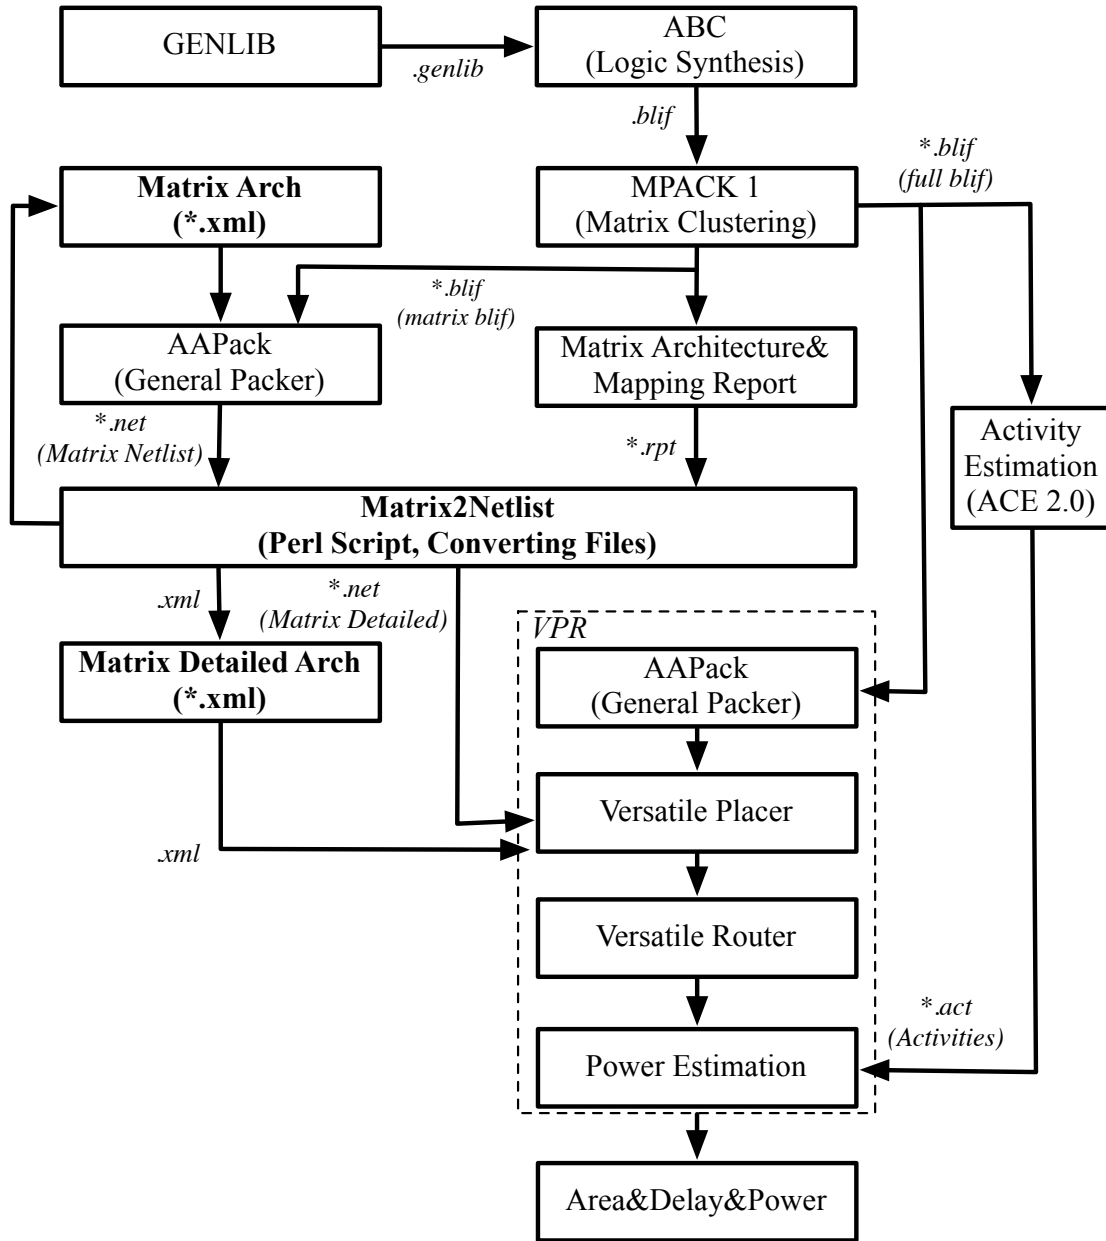

Fig. 1. MPACK1 flow
MPACK1 scripts are developed to integrate MPACK1 into VPR7 (Versatile Place & Route) CAD flow. A Perl script, *mpack1\_mix\_flow.pl*, manages the MPACK1 flow shown in Fig. 1. The Perl script, connecting ABC (Logic Synthesis Tool), MPACK1 (Matrix-based BLE Packer), VPR 7 and another Perl script, *m2net.pl*, generates a table (CSV file) containing area, delay and power of a given matrix-based cluster architecture.
In Fig. 1, input circuit is first synthesized by ABC with logic optimization, then MPACK1 packed the circuits into matrix-based BLEs (*Basic Logic Elements*). AA-Pack clusters the matrix-based BLEs into CLBs (Configurable Logic Blocks).
Output matrix-based blif file of MPACK1 cannot be directly supported by VPR7 timing analysis engine because VPR7 requires more detailed architecture description and mapping information inside each matrix-based BLE. Perl script, *m2net.pl*, aims to fit the results from MPACK1 to VPR7 timing engine through (1) auto-generating the architecture description of matrix-based clusters with given settings, (2) inject the internal interconnections inside packed matrix-based clusters into the netlist (\*.net) generated by AA-Pack. Works from *m2net.pl* are bold in Fig. 1.
MPACK1 outputs two blif files, one (called as matrix-blif in Fig. 1) without internal interconnection information inside matrix-based BLEs, the other (called as full-blif in Fig. 1) providing full internal interconnection information insides matrix-based BLEs. Besides, MPACK1 outputs a report file including the matrix architecture and internal connections of each matrix-based BLE. Perl script, *m2net.pl*, generates the architectural descriptions based on the matrix-blif. AA-Pack uses the matrix-blif to pack matrix-based BLEs into CLBs, and outputs results into a netlist (matrix netlist in Fig. 1). Perl script, *m2net.pl*, generates the detailed architectural descriptions based on the full-blif and MPACK1 report, and then inject the internal interconnections into the netlist from AA-Pack. To conduct power estimation, activity estimator (ACE 2.0) reads in the full-blif and outputs the activities file (\*.act). VPR7 reads the full-blif, the netlist and detailed architecture description from *m2net.pl*. VPR7 produce area, timing and power of a hypothesis FPGA consisting of matrix-based clusters.